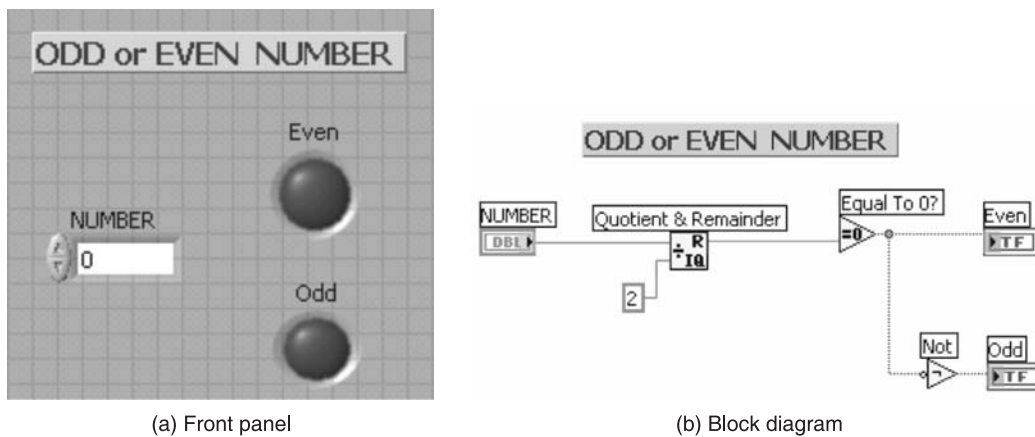

Figure P2.8
**Solution** Click continuous run and increment the number to see the even and odd LED glow alternatively. The front panel and block diagram are shown in Figures P2.8(a) and P2.8(b).